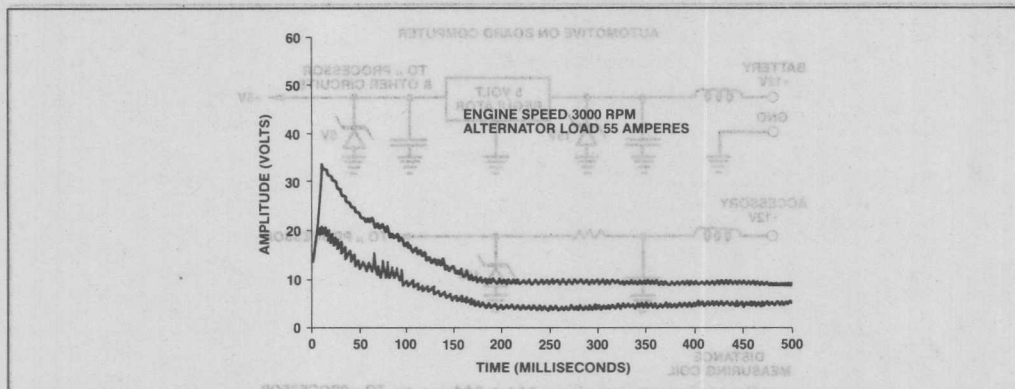

Figure 24. Typical Load Dump Transients
- An abrupt reduction in the alternator load causes a positive voltage transient called "load dump." In a load dump transient the line voltage rises to 20 or 30V in a few msec, then decays exponentially with a time constant of about 100msec, as shown in Figure 24. Much higher peak voltages and longer decay times have also been reported. The worst case load dump is caused by disconnecting a low battery from the alternator circuit while the alternator is running. Normally this would happen intermittently when the battery terminal connections are defective.